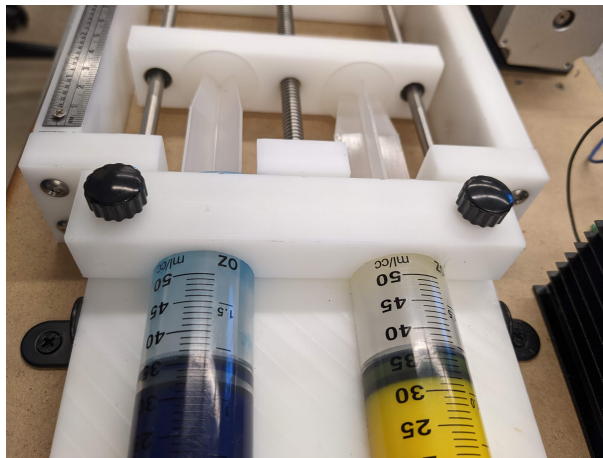

Fig. 2. Syringes installed in the syringe pump.
5. Replace the syringe holder and tighten knobs to hold the syringes in place, see Figure 2.